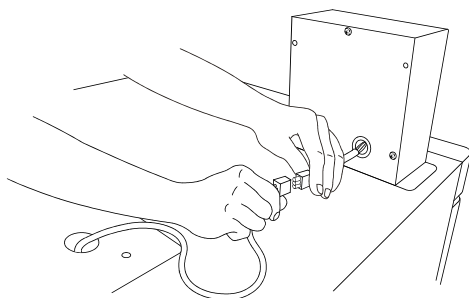

Fig. 13
9. Join the wire from the freezer and wire from the recorder by using the enclosed connecting wire. See Fig. 13.